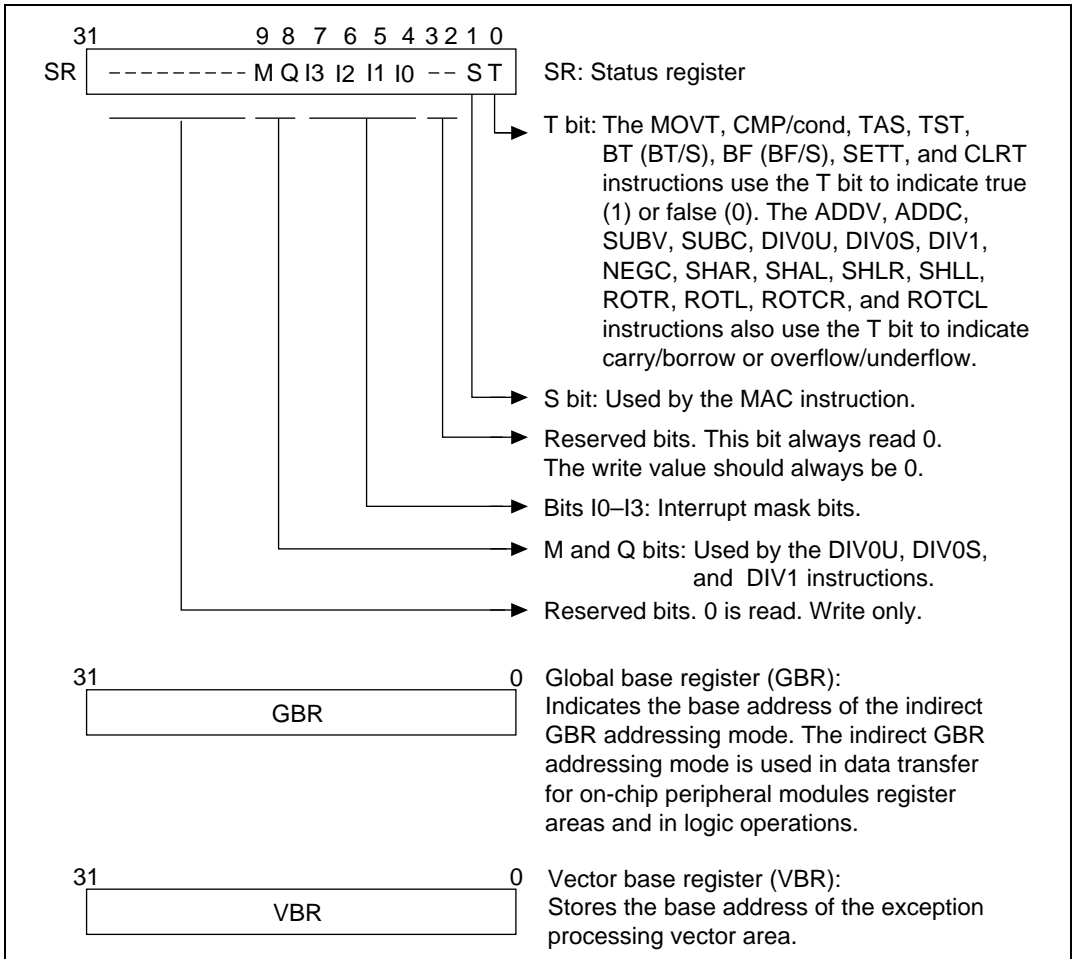

Figure 2.2 Control Register Configuration
The 32-bit control registers consist of the 32-bit status register (SR), global base register (GBR), and vector base register (VBR). The status register indicates processing states. The global base register functions as a base address for the indirect GBR addressing mode to transfer data to the registers of on-chip peripheral modules. The vector base register functions as the base address of the exception processing vector area (including interrupts). Figure 2.2 shows a control register.